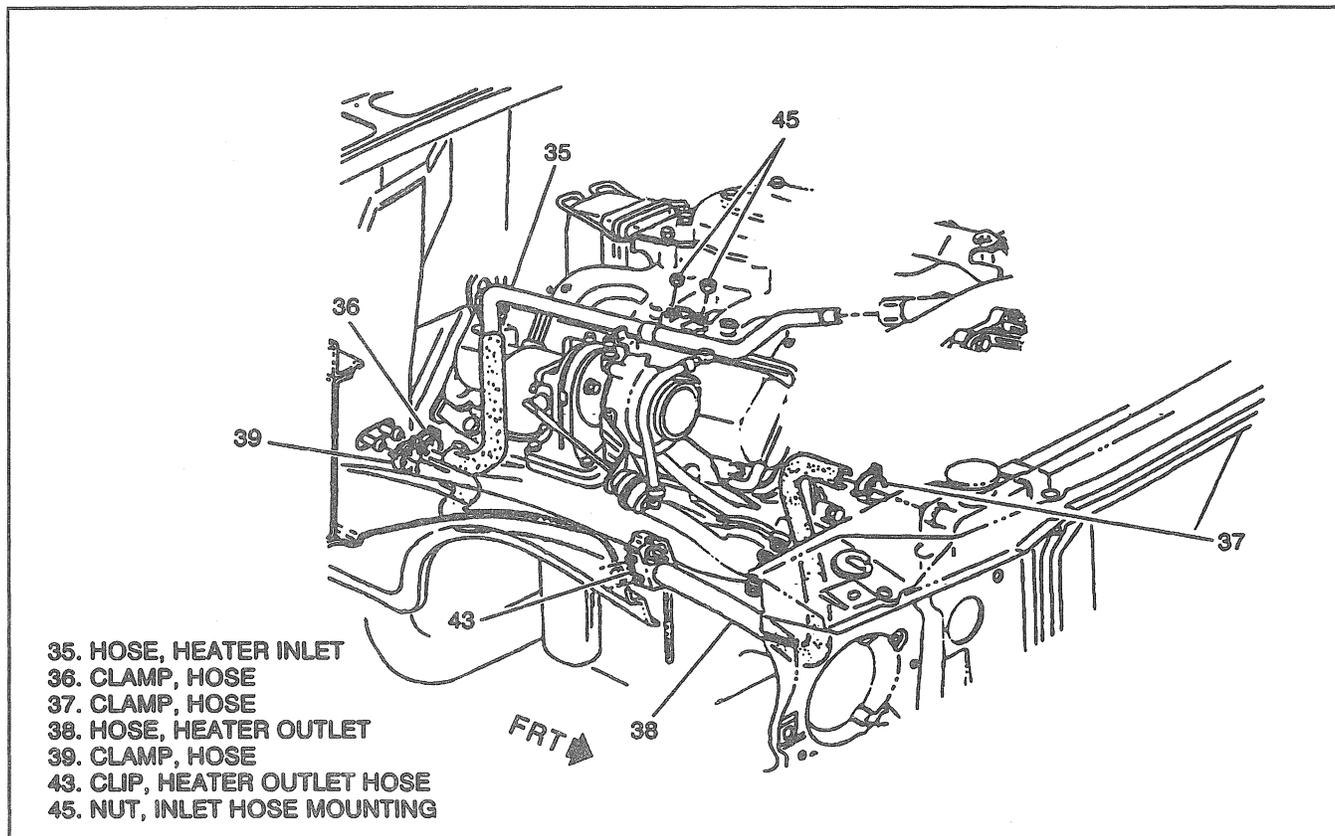

Figure 15—Heater Hose Routing - (Diesel Engines)
**Remove or Disconnect (Figures 15 and 17)**
### Install or Connect (Figures 15 and 17)
### Remove or Disconnect (Figure 15 and 17)
### Install or Connect (Figure 15 and 17)